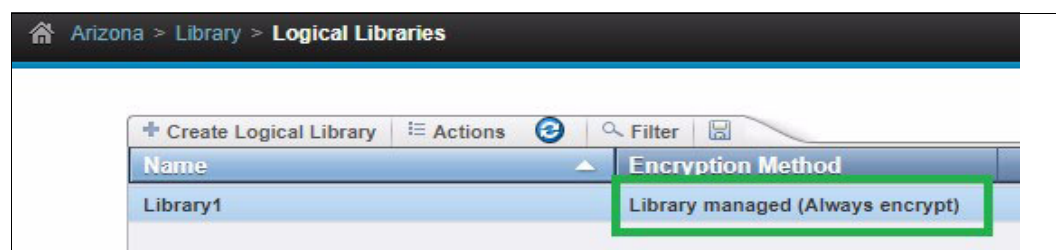

Figure 3-7 Verifying that the Encryption Method is Library managed (Always encrypt)
6. On the Logical Libraries page, verify that the encryption method for the LL is Library managed (Always encrypt) (see Figure 3-7).